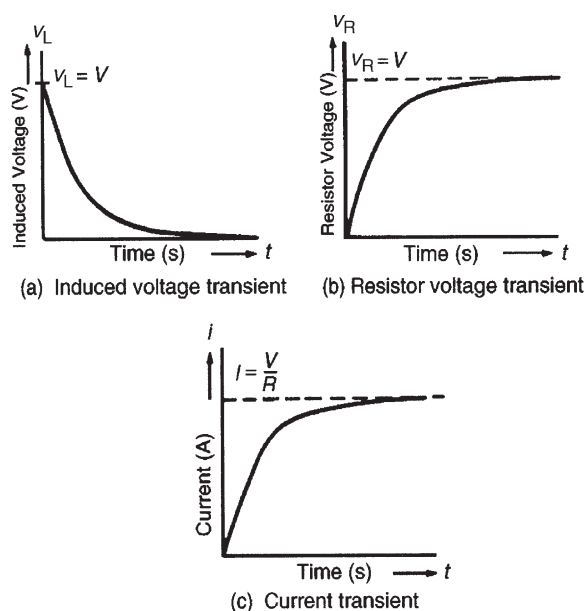

Figure 18.11
- (g) Curves showing the changes in v_L , v_R and i with time are shown in Fig. 18.11 and indicate that v_L is a maximum value initially (i.e. equal to V), decaying exponentially to zero, whereas v_R and i grow exponentially from zero to their steady-state values of V and $I = V/R$, respectively.
Transient curves representing the induced voltage/time, resistor voltage/time and current/time characteristics may be drawn graphically, as outlined in Section 18.4. A method of construction is shown in Problem 8. Each of the transient curves shown in Fig. 18.11 have mathematical equations, and these are: